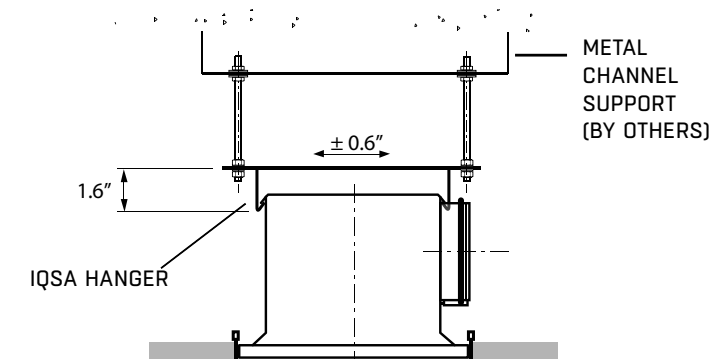

FIGURE 5. Aurora IQSA suspension below the structure.
- 1) The beam is then to be positioned within the acoustical ceiling grid by threading the suspension rods up into the suspension bracket (by others) and into the Aurora IQSA hanger. Tighten nuts with a wrench. (See **FIGURE 5**)